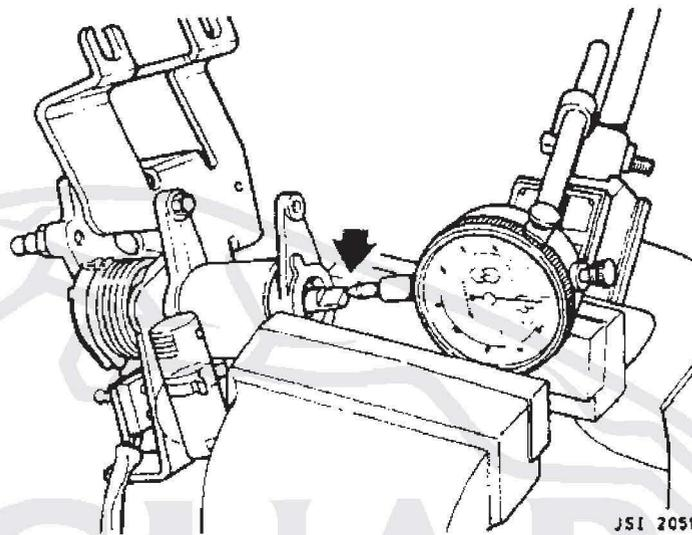

Fig. 3
17. Lightly hold the pedestal housing in a vice, as illustrated in Fig. 3; assemble and mount a dial test indicator, to permit measurement of the shaft end float in the housing. Check the end float.